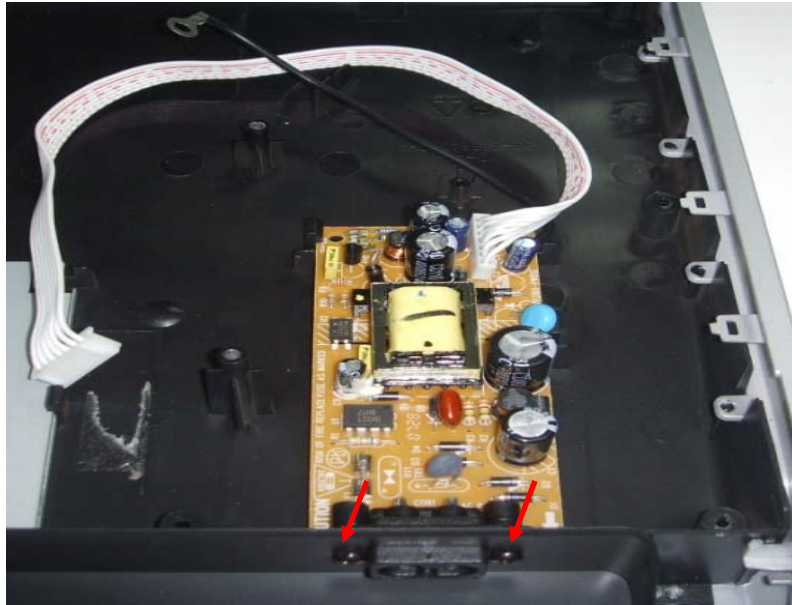

Figure 7
**Step5:** Dismantling power board: disconnect the 2 screws, then can remove the power board. (Figure7)